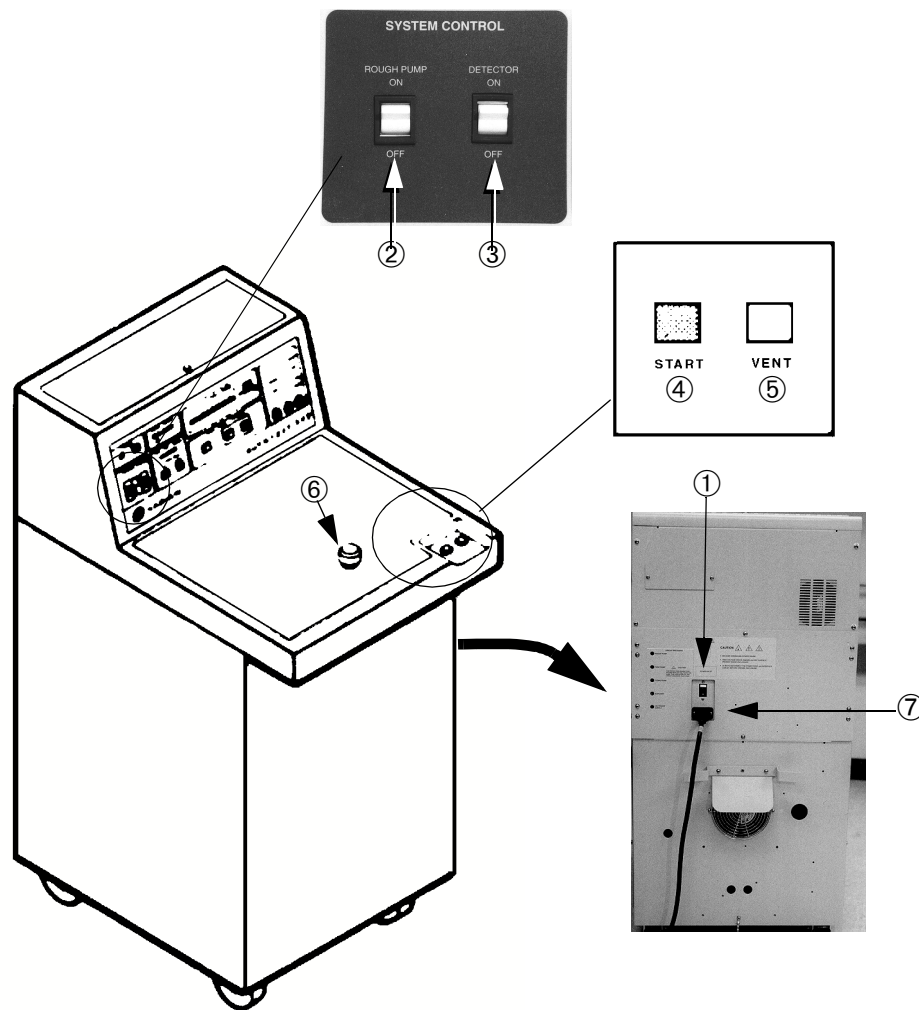

Figure 3-7 Start-Up Controls
Figure 3-7 shows the important 947/948/960 operation controls for start up and power. For circuit breaker descriptions, refer to “Rear Panel Power Connection and Circuit Breakers” on page 1-22.
Refer to Figure 3-7 and follow the start up procedure, listed in the next Section, and in “Calibration and Sensitivity Checks” on page 3-29 procedure to put the 947/948/960 in a *Ready for Operation* state from the *All Systems off* condition.
2. Place the test port plug in the test port opening ⑥. Refer to Figure 3-7 on page 3-26.